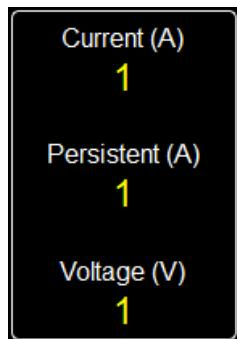

Figure 2-4 Mercury iPS summary area
- 3 Tap the summary area on the Home page (see Figure 2-4).